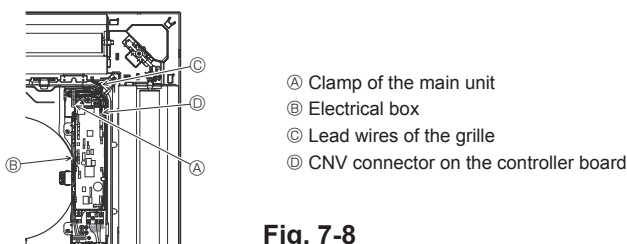

Fig. 7-8
7.4.4. Wire connection (Fig. 7-8)